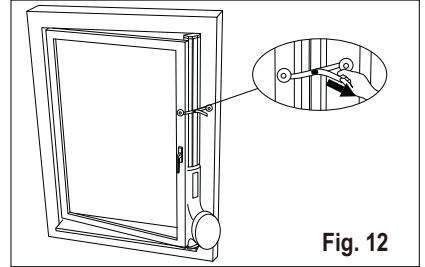

Fig. 12
- Press back the locking lever to fix the length of the window slider kit, then close the window and pinch the window kit between the window and the window frame, to secure the window kit, peel off the protect film in the back of the tabs of the anchor and attach on the window frame, then fasten the strap (Fig. 12).